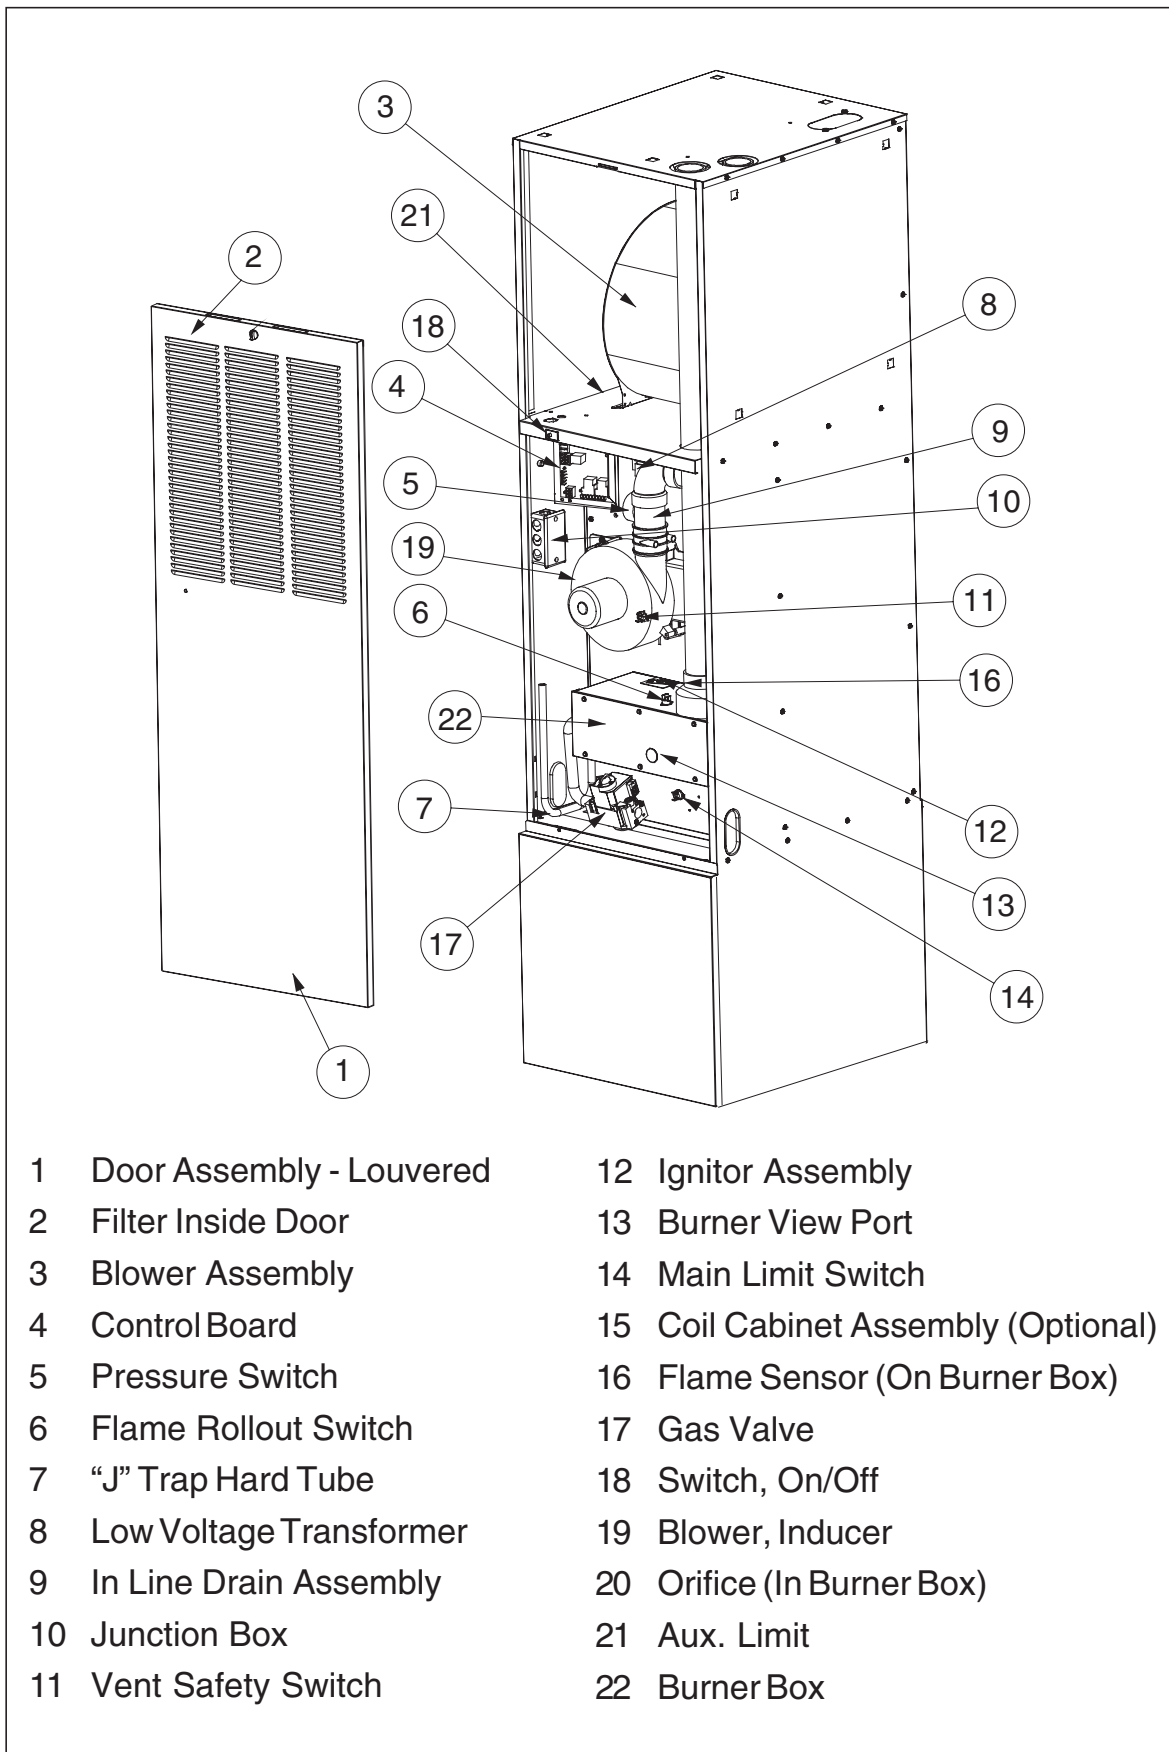

Figure 29. Location of Major Components
To verify operation of the burners, remove front door and ensure that the door switch is in the "on" position (see Figure 29). Set the thermostat above room temperature and observe the ignition sequence. The flame can be observed through the small clear window on the burner box. The burner flame should carry over between all burners. The flames should be blue, without yellow tips. Flames should extend from each burner without lifting, curling, or floating.
Figure 29 shows the location of each of the functional components described below. If any component of the furnace must be replaced, use only factory authorized replacement parts. Contact your distributor for the approved replacement parts.
Deck Limit Switch (Auxiliary Limit) – The deck limit protects the furnace filter temperature from overheating when the motor has malfunctioned. If the deck switch opens, the power for the furnace will shut down (see Figure 29).
If the furnace locks out after 5 attempts for ignition, it will try again every hour if a call for heat remains. If the inducer and circulating air blowers are operating, and items 1 through 8 have been checked, press the red reset button on the vent safety switch. (See Figure 29.) If the furnace operates after depressing the reset button, contact a qualified service technician to identify and repair the problem.